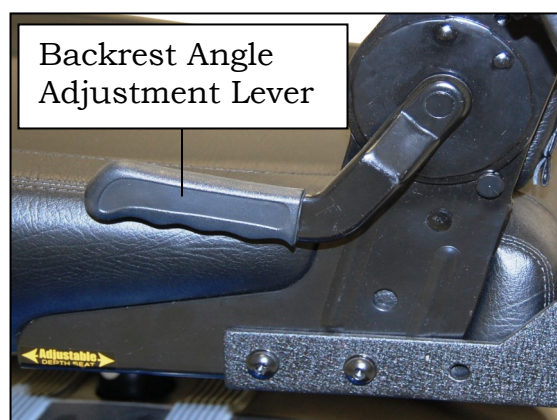

Figure 4
6. Lift the backrest angle adjustment lever (See figure 4 on page 14) and while holding the lever, lift the seat back to an upright angle, then release the lever to lock the seat back in place.